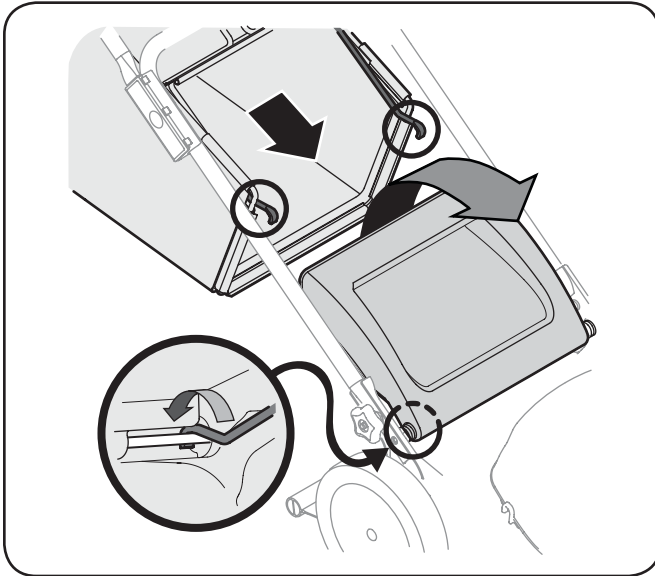

Figure 3-6
- c. Place grass catcher on the pivot rod. Let go of discharge door so that it rests on the grass catcher. See Fig. 3-6.